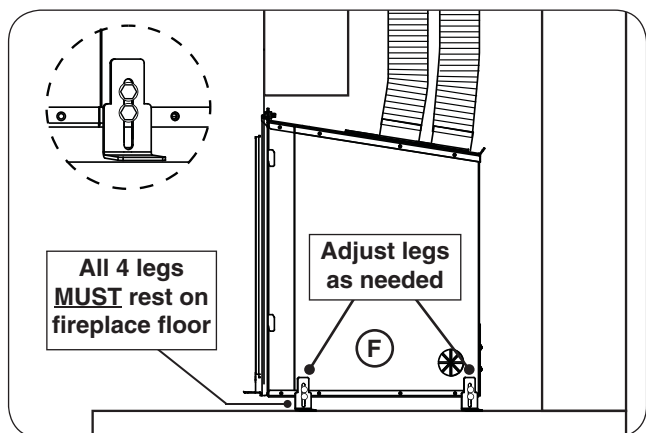

Fig. 24-3 Use adjustable legs to level (as needed)
8. The unit has four adjustable legs for leveling purposes. Adjust each leg as needed to level the unit. Ensure each leg rests on the fireplace floor. Use a $\frac{5}{16}$ " nut driver to loosen the two hex screws on a leg, move it to the required height, and then re-tighten the screws. See Fig. 24-3, F.